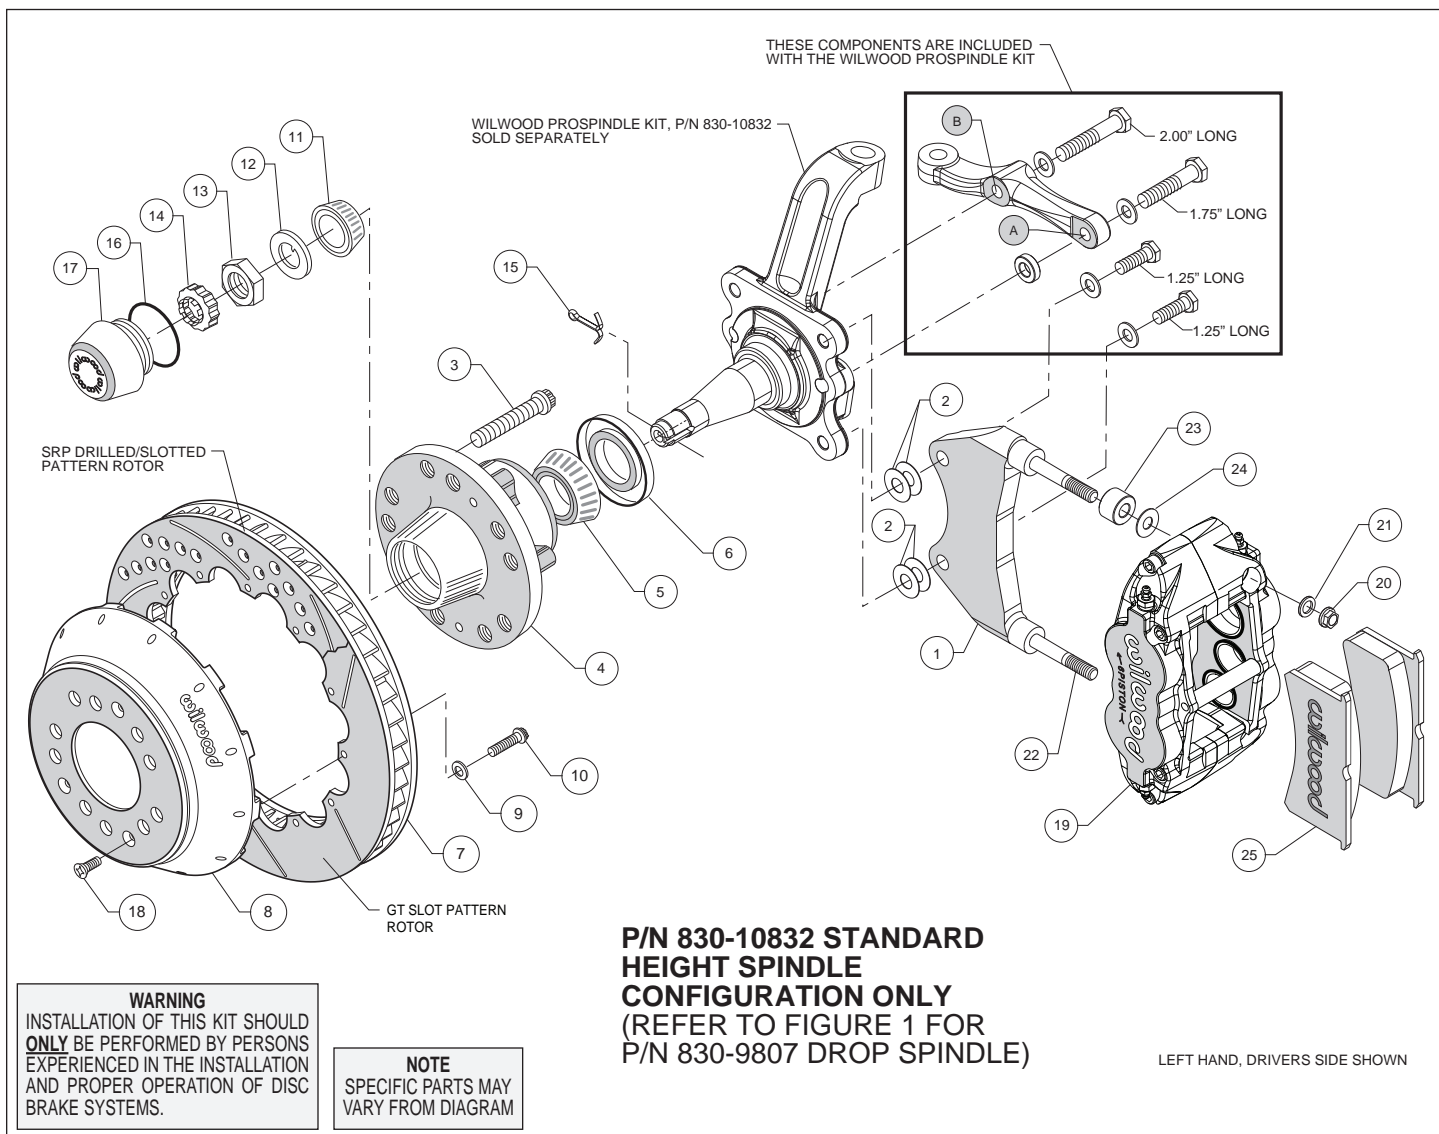

Figure 2. Installation Configuration For Standard Height Spindle, P/N 830-10832
**For Standard Height ProSpindle (P/N 830-10832):** The caliper bracket assembly (1) should initially be installed with clean, dry threads on the mounting bolts.
- Orient the bracket as shown in Figure 2 and Photo 2. Install using 1.25" long bolts and .06" thick washers (from ProSpindle kit), and two .016" thick shims (2) on each bolt between the bracket and spindle, Figure 2. Temporarily tighten mounting bolts. **NOTE:** The bracket must fit squarely against the mounting points on the spindle. Inspect for interference from casting irregularities, machining ridges, burrs, etc. Later, after the caliper alignment has been checked, the mount bolts will be secured using red Loctite® 271.
- Orient the steering arm, and identify the hole marked 'A', as shown in Figure 2. Install using 1.75" long bolt, .06" thick washer, and .30" thick spacer (all from ProSpindle kit), Figure 2.
- Finish attaching the steering arm through the hole marked 'B', as shown in Figure 2. Install using 2.00" long bolt and .06" thick washer (from ProSpindle kit), Figure 2.